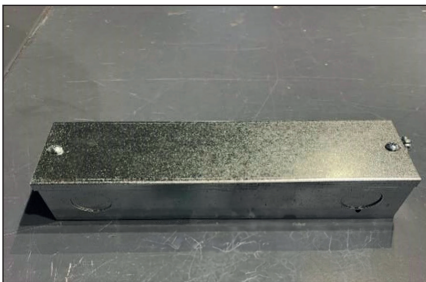

Fig. 1
- Unpack New construction housing, Hanger bars (Typ. 2) and hanger bars screws (Typ. 4) from enclosed packaging. [Fig. 1]